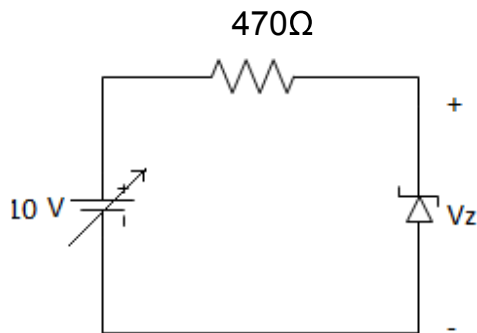

Figure 4.3: Reverse Biased Zener Characteristics
1. Connect the circuit as shown in the figure 4.3